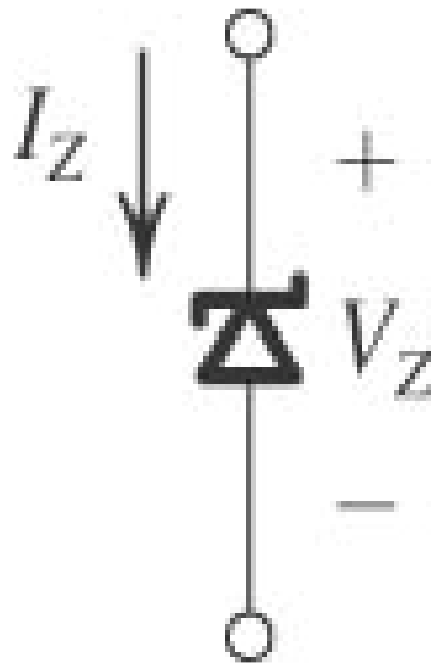

Figure 3.20 Circuit symbol for a zener diode.
- Fig. 3.20 shows the circuit symbol of the zener diode.
- In normal applications of zener diodes, current flows into the cathode, and the cathode is positive with respect to the anode. Thus, I_Z and V_Z in Fig. 3.20 have positive values.